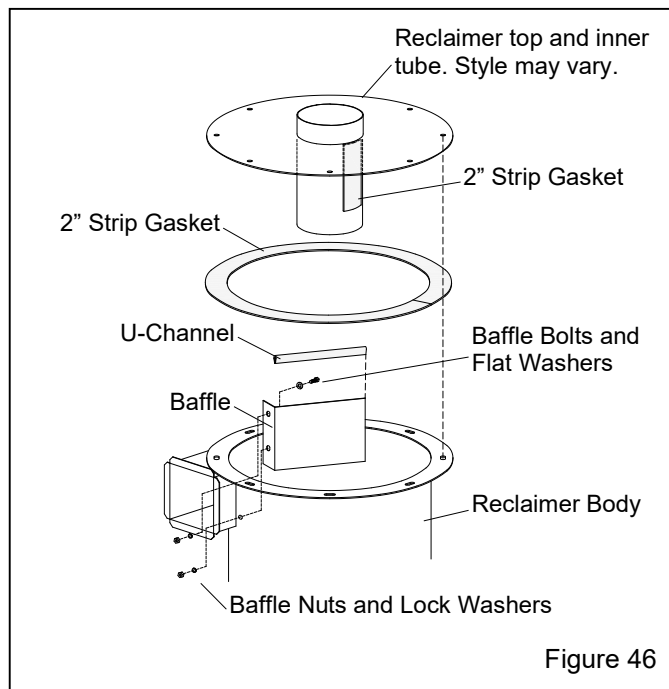

Figure 46
7.12 Removing or Replacing Reclaimer Inlet Baffle in Reclaimer with a Bolt-On Top – Figure 46